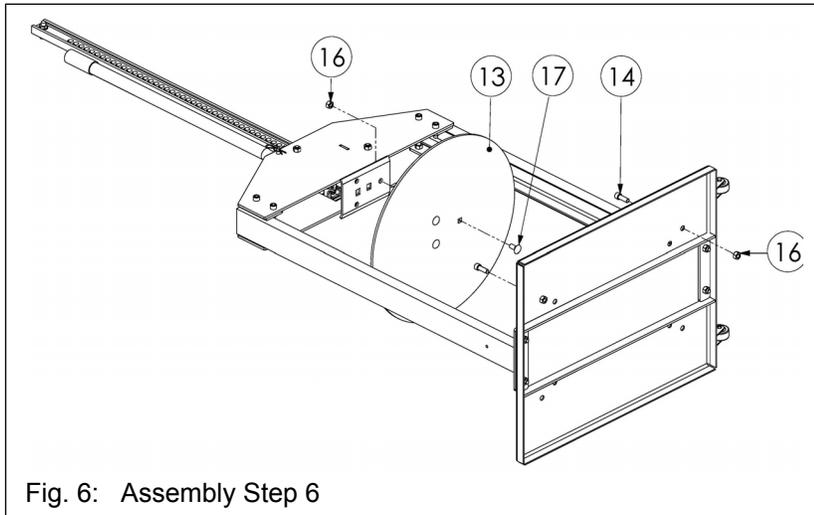
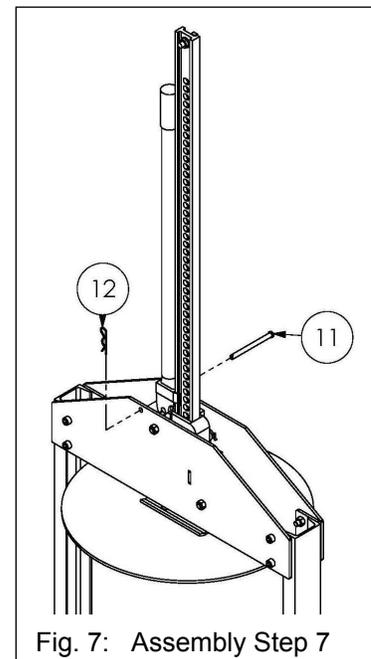
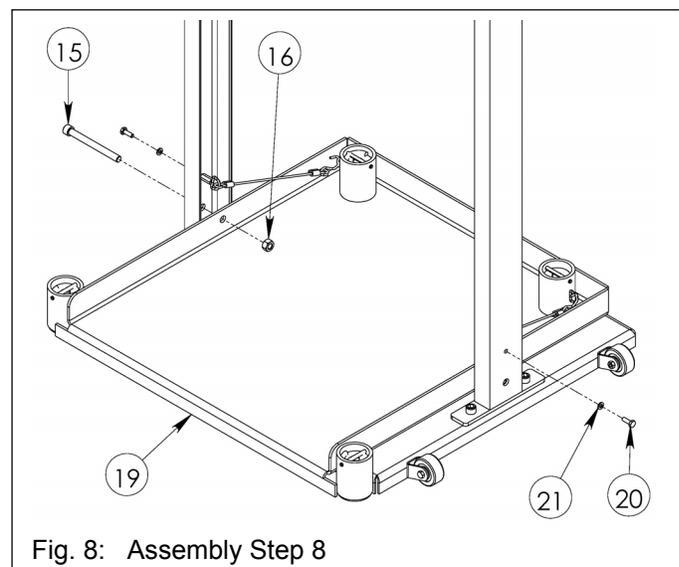
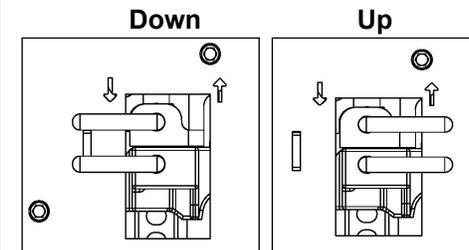

Fig. 6: Assembly Step 6
Fig. 7: Assembly Step 7
Fig. 8: Assembly Step 8
FIG. 9: Jack Direction Levers
**Step 6:** Connect the compactor plate (13) to the end of the jack with the carriage bolts (17) along with 7/16-14 nylock nuts with warning labels facing the jack (Fig. 6). Place 7/16-14 x 1 1/4" bolts into correct holes for drum stop (Fig. 7). The inside holes are for 30 gallon drums and the outside holes are for 55 gallon drums.
**Step 7:** Store the compactor with the handle in an upright position. To secure the handle, insert the clevis pin (11) into hole when unit is not in use. Lock the pin in place with the hitch pin clip (12). (See Fig. 7.)
**Step 8: MTC-RB ONLY:** Place  $\text{\O} 1/4 - 20 \text{ UNC X } 3/4$  bolts and 1/4in. lock washers through vertical support holes (Fig. 8).
**Step 9: MTC-RB ONLY:** Insert #15 bolt through the bottom hole on either vertical support weldment, and through the hole on the roll-out tray when moving unit (Fig. 8).
**Step 1:** Free the jack handle by removing the storage pin (11) (Fig. 7). Turn the jack direction levers to the “UP” position (Fig. 9), and fully raise the compactor plate. **MTC-RB units:** remove the bolt securing the roll-out tray (see Fig. 8 on p. 5).
**Step 3:** Turn the jack direction levers to the “DOWN” position (Fig. 9).
**Step 6:** Once compaction is complete, turn both direction levers to the “UP” position (Fig. 9).
**Step 8:** Put the jack handle in the storage position with the clevis pin (11). Secure the clevis with the hitch pin (12) (see Fig. 7 on p. 5).
**Step 9:** Remove the waste storage drum. If you have the MTC-RB model, roll out the tray, remove drum and push back onto the base weldment. MTC-RB model only: Lock the tray assembly in the storage position with a bolt (15) and nylock nut (16). (See Fig. 8 on p. 5.)